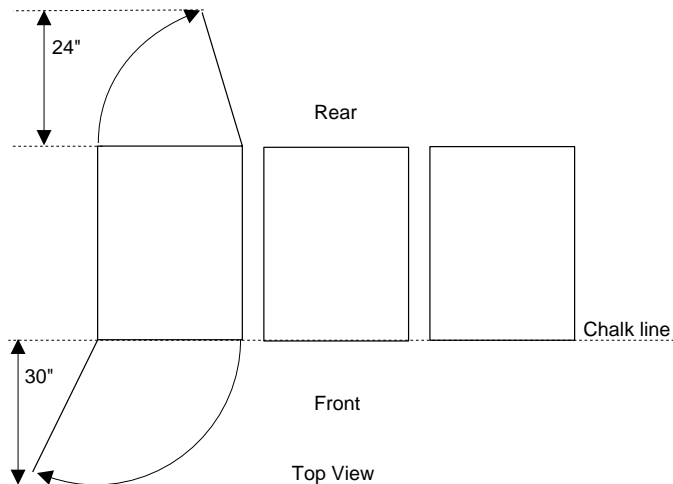

Figure 2. PC Server Rack position
- You need at least 24 inches (61 cm) of space behind the cabinet and 30 inches (76 cm) of space in front of the cabinet (see Figure 2). This space is necessary for opening the front and rear doors, and will provide the access space needed during installation.